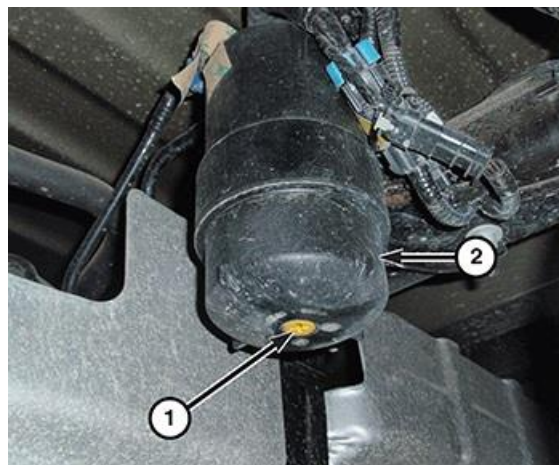

Figure 57 – Fuel Filter Drain Plug
4. Loosen the drain plug (1) and drain the fuel filter/water separator (2) into a suitable container (Figure 57).
5. Securely tighten the drain plug (1) (Figure 57).
6. Using a commercially available oil filter strap wrench, remove the filter cover (2) and the fuel filter (Figure 57).